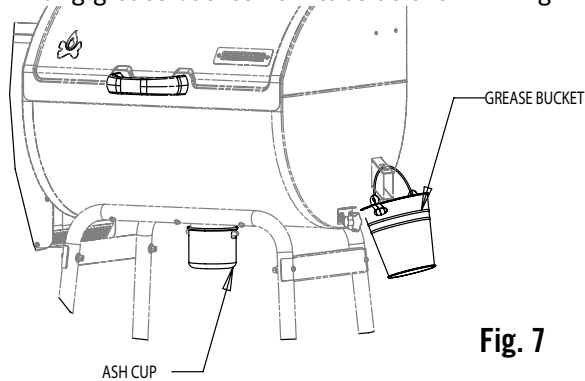

Fig. 7
1. Hang grease bucket from tube as shown in Fig 7.